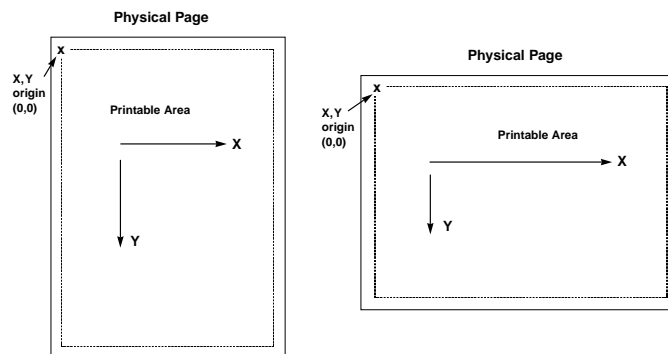

Figure 1
1. All xy values (start, end, center, increment) are measured in n/300 of an inch. The origin of the xy coordinate system is the top left hand corner of the printable area of the page (see Figure 1).
2. To determine the printable area of the paper, we printed a box using 0;0 as the x;y -start coordinates. This was done by typing `-GB1;0;0;300;300;50` on the screen and sending it to the printer. The top left corner of the printed box marks the top left corner of the printable area of the page. For reference, we drew the printable area on the blank sheet of paper. All references to distances are made in respect to the printable page, not the actual physical page. Refer to Figure 1 on page 5-20.